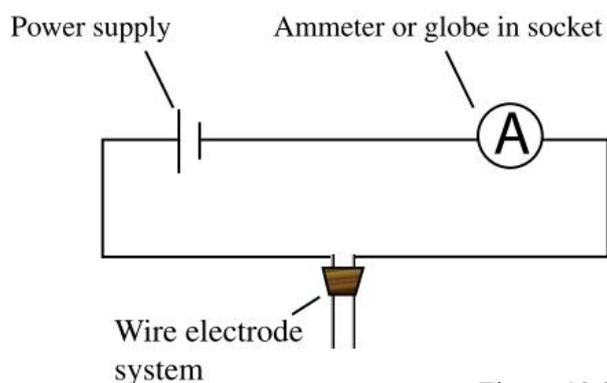

Figure 13.3
1. Connect a 6 V D.C. supply, ammeter and/or globe and wire electrode system in series as shown in figure 13.3.
1. Connect a 6 V D.C. supply, ammeter and/or globe, and plate electrode system in series (similar to the circuit in Figure 13.3).